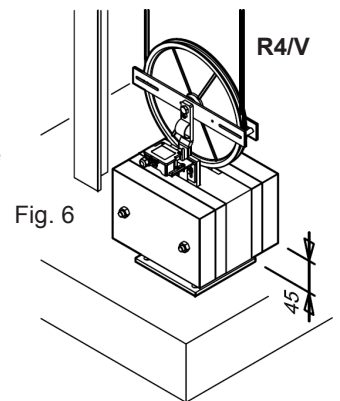

Fig. 6
- Mount the leading plate of the counterweight to achieve perfect alignment between the pulley of the overspeed governor and the pulley of the tension weight (Fig. 6).
- Hold the counterweight, until it reaches a height of about 45 mm from the bottom of the shaft (approx. value) (Fig. 6).